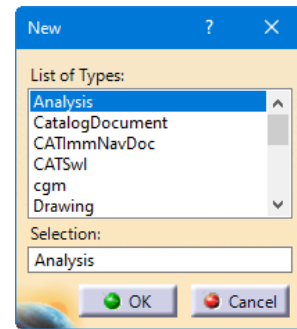

Figure 2-69 The New dialog box
1. Choose **File > New** from the menu bar; the **New** dialog box is displayed, as shown in Figure 2-69. Alternatively, choose the **New** tool from the **Standard** toolbar to invoke the **New** dialog box.